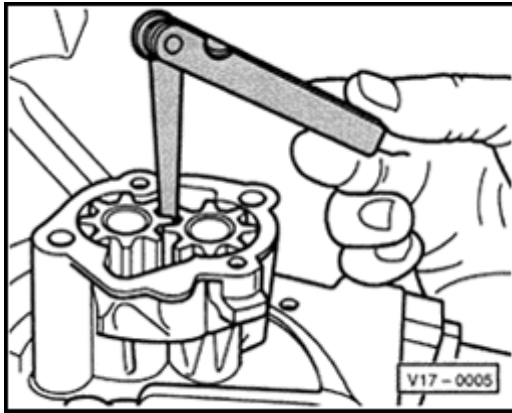

Fig. 1 Checking oil pump backlash
- ◆ Checking backlash ⇒ Fig. 1